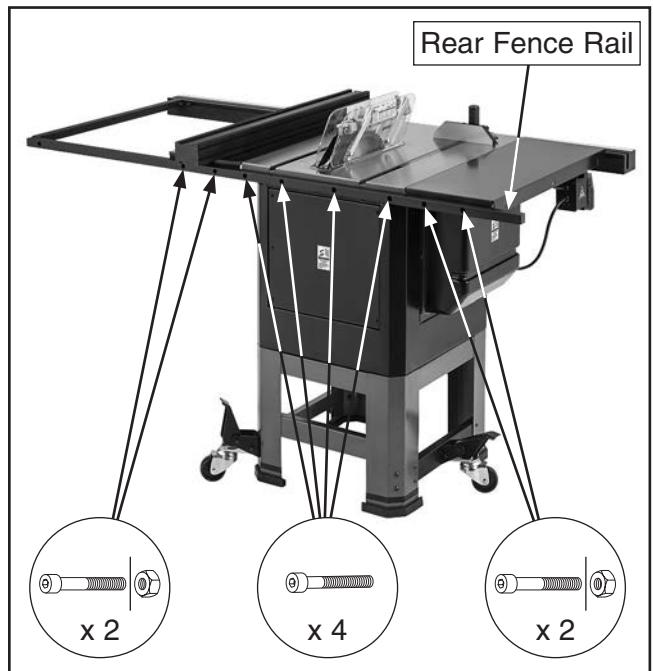

Figure 25. Mounting rear fence rail.
- 15.** Install rear fence rail on rear of table using (8) M8-1.25 x 25 cap screws, as shown in **Figure 25**. Secure outer four cap screws with M8-1.25 hex nuts.